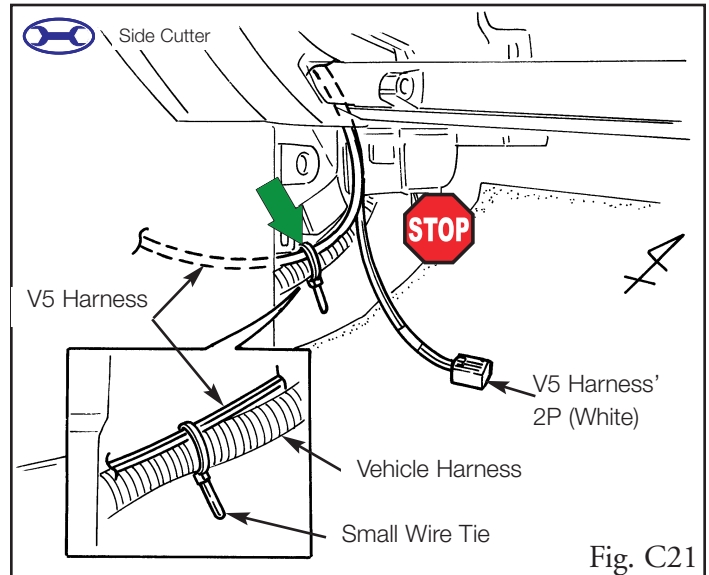

Fig. C21
26. Route V5 harness from behind the center console on the passenger side, then secure it to the vehicle harness with one small wire tie. (Fig. C21)